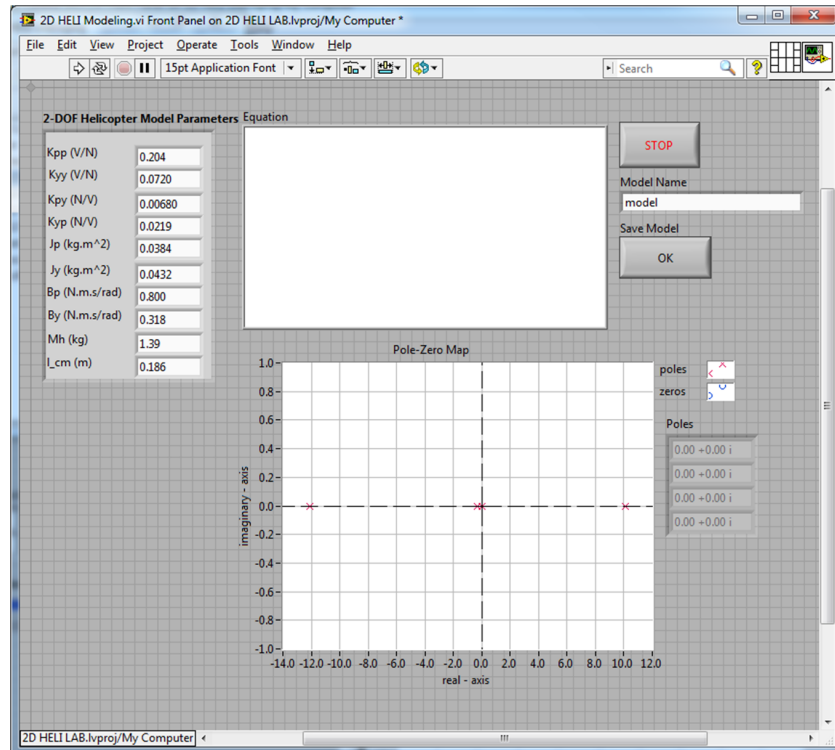

Figure 5.3: Model of the 2 DOF Helicopter
4. The front panel of the *2D HELI Modeling VI* is shown in Figure 5.3.